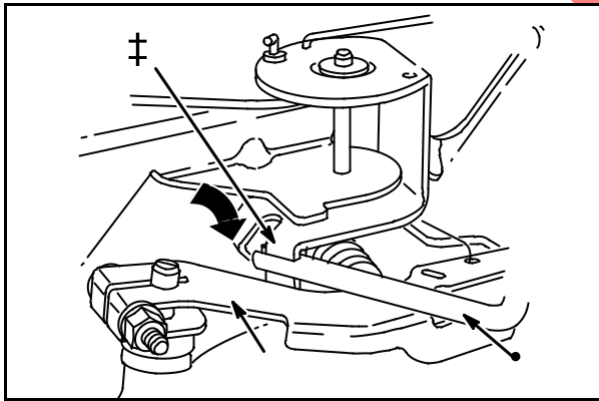

Fig. 44
With equipment control lever in SLOW position and engine running at governed idle RPM, use Tang Bender #19352 (1), and bend throttle restrictor tang (7) so that tang just contacts governor lever (8), Fig. 44.